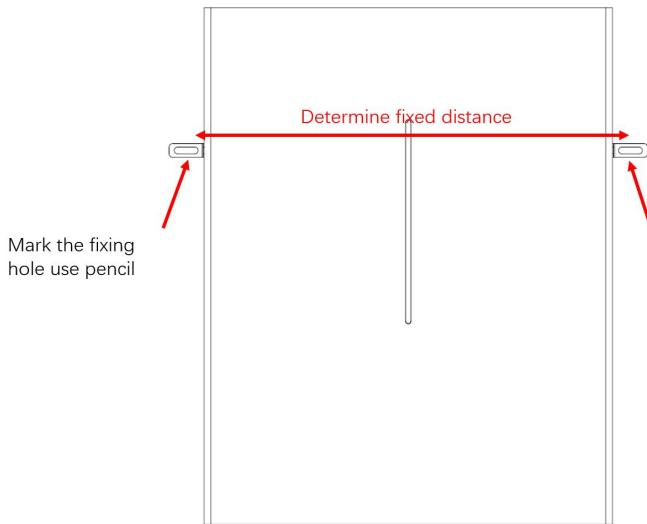

Figure 5-5
- d) Stand the battery on the side of the wall, mark the location of the fixing hole, Choose the recommend drill head (as shown in below picture) to drill 2 holes on the wall,100-110mm deep, as shown in Figure 5-2 and Figure 5-5.